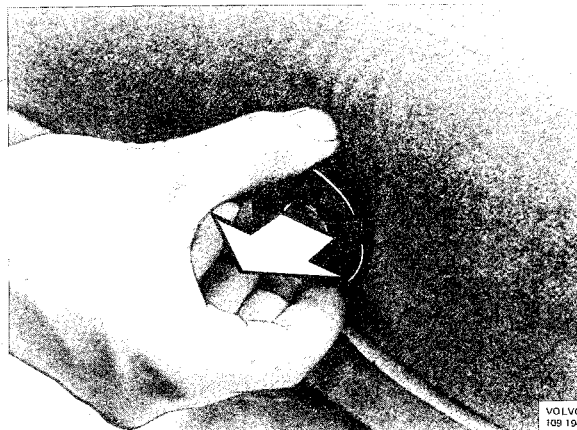

Fig. 8-58. Removing bushing in seat back
- A. Unscrew the lumbar support hand wheel. Pull loose the plastic bushing in the seat back, see Fig. 8-58.